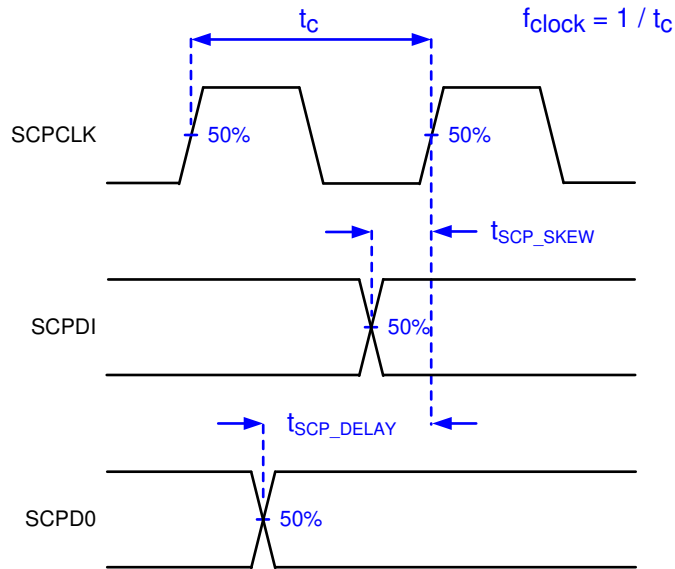

Figure 6-3. Serial Communications Bus Timing Parameters
- (5) PWRDNZ input pin resets the SCP and disables the LVDS receivers. PWRDNZ input pin overrides SCPENZ input pin and tri-states the SCPDO output pin.
- (6) The SCP clock is a gated clock. The duty cycle shall be $50\% \pm 10\%$. SCP parameter is related to the frequency of DCLK.
- (7) Refer to Figure 6-3.
- (8) SCP internal oscillator is specified to operate all SCP registers. For all SCP operations, DCLK is required.
SERIAL CONTROL BUS TIMING PARAMETERS (See Figure 6-3 and Figure 6-4)